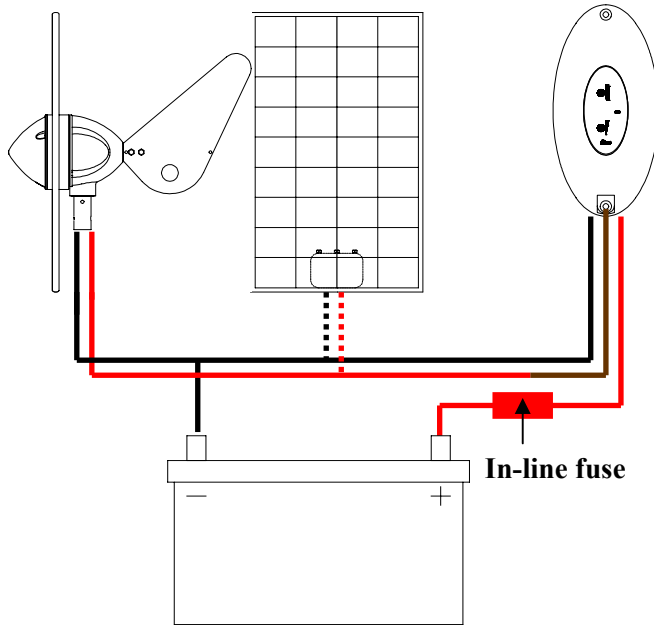

Fig 3
2. Select one of the basic wiring systems in Figs. 3, 4 & 5 and follow the manual provided with the selected charge regulator.